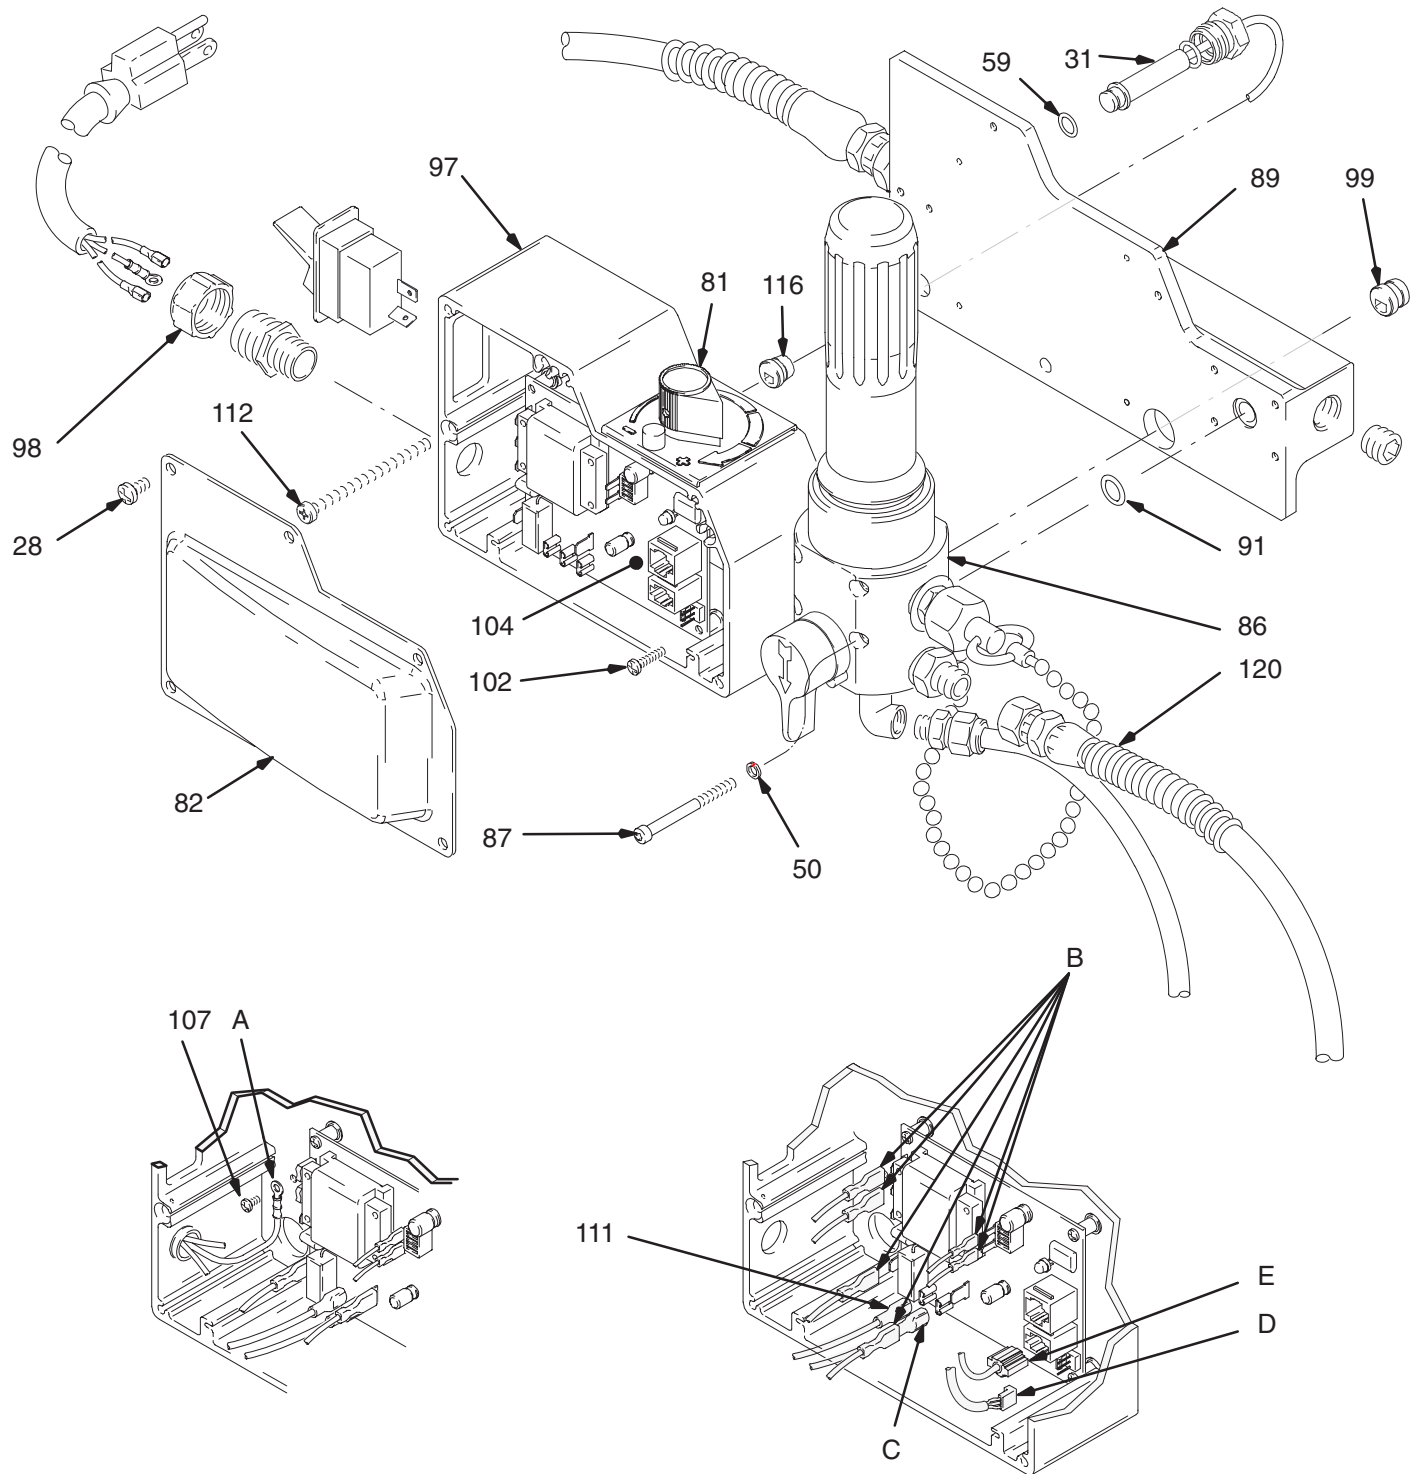

Fig. 16
2. Fig. 16. Install motor control board (104) with four screws (102) and washers (103).
- Lead (E) to transducer.
- Lead (D) to potentiometer.
- Lead (111) to ON/OFF switch.
- Lead (C) to power cord.
- Six motor leads (B).
4. Install cover (82) with five screws (28).
2. Fig. 16. Remove five screws (28) and cover (82).
- Lead (C) from power cord.
- Lead (111) from ON/OFF switch.
- Lead (D) from potentiometer.
- Lead (E) from transducer.
4. Remove four screws (102), washers (103) and circuit board (104).
2. Remove five screws (28) and cover (82). See Fig. 16.
3. Disconnect lead (E) from motor control board (104).
4. Remove strain relief bushing (116).
5. Remove pressure control transducer (31) and packing o-ring (59) from control housing plate (89).
2. Fig. 16. Install packing o-ring (59) and pressure control transducer (31) in control housing plate (89). Torque to 30–35 ft-lb.
3. Install strain relief bushing (116).
4. Connect lead (E) to motor control board (104).
5. Install cover (82) with five screws (28).
3. Disconnect lead (D) from motor control board (104).
4. Remove potentiometer knob (81), sealing shaft nut (106) and pressure adjust potentiometer (105).
2. Fig. 16. Install pressure adjust potentiometer (105), sealing shaft nut (106) and potentiometer knob (81).
3. Connect lead (D) to motor control board (104).
NOTE: Read **General Repair Information** on page 16 before doing this procedure. See Fig. 16 and 19.
2. Remove motor shield (54).
3. Remove pressure control cover (82). Disconnect six motor leads (B). See figure 16.
4. Remove strain relief (99) by pushing from behind and into the control box. Pull motor wires bundle through pressure control opening. See figure 16.
5. Remove front cover (49).